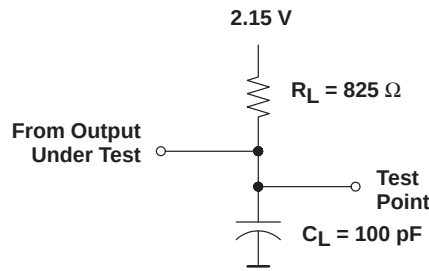

Figure 2. Test Load Circuit
| PARAMETER                          |              | TEST CONDITIONS(SEE FIGURE 2)                                                                   | MIN | TYP † | MAX | UNIT |
| $t_{c(C)}$  | CLKOUT cycle time §                      | $R_L = 825 \Omega$ ,$C_L = 100 \text{ pF}$(see Figure 2) | 195.12          | 200             |                 | 156.25       | 160             |                 | ns   |
| t SU (D) Setup time, data bus valid prior to CLKOUT↓                 | R L = 825 Ω,C L = 100 pF(see Figure 2) | 50        |     |     | 40           |     |     | ns   |
| $t_{d11}$ Delay time, $\overline{DEN}\uparrow$ , $\overline{WE}\uparrow$ , and $\overline{MEN}\uparrow$ from $\overline{RS}$ | $R_L$ 825 $\Omega$ ,$C_L$ = 100 pF,(see Figure 2) | $1/2t_{c(C)} + 50^\dagger$ |     |     | ns   |